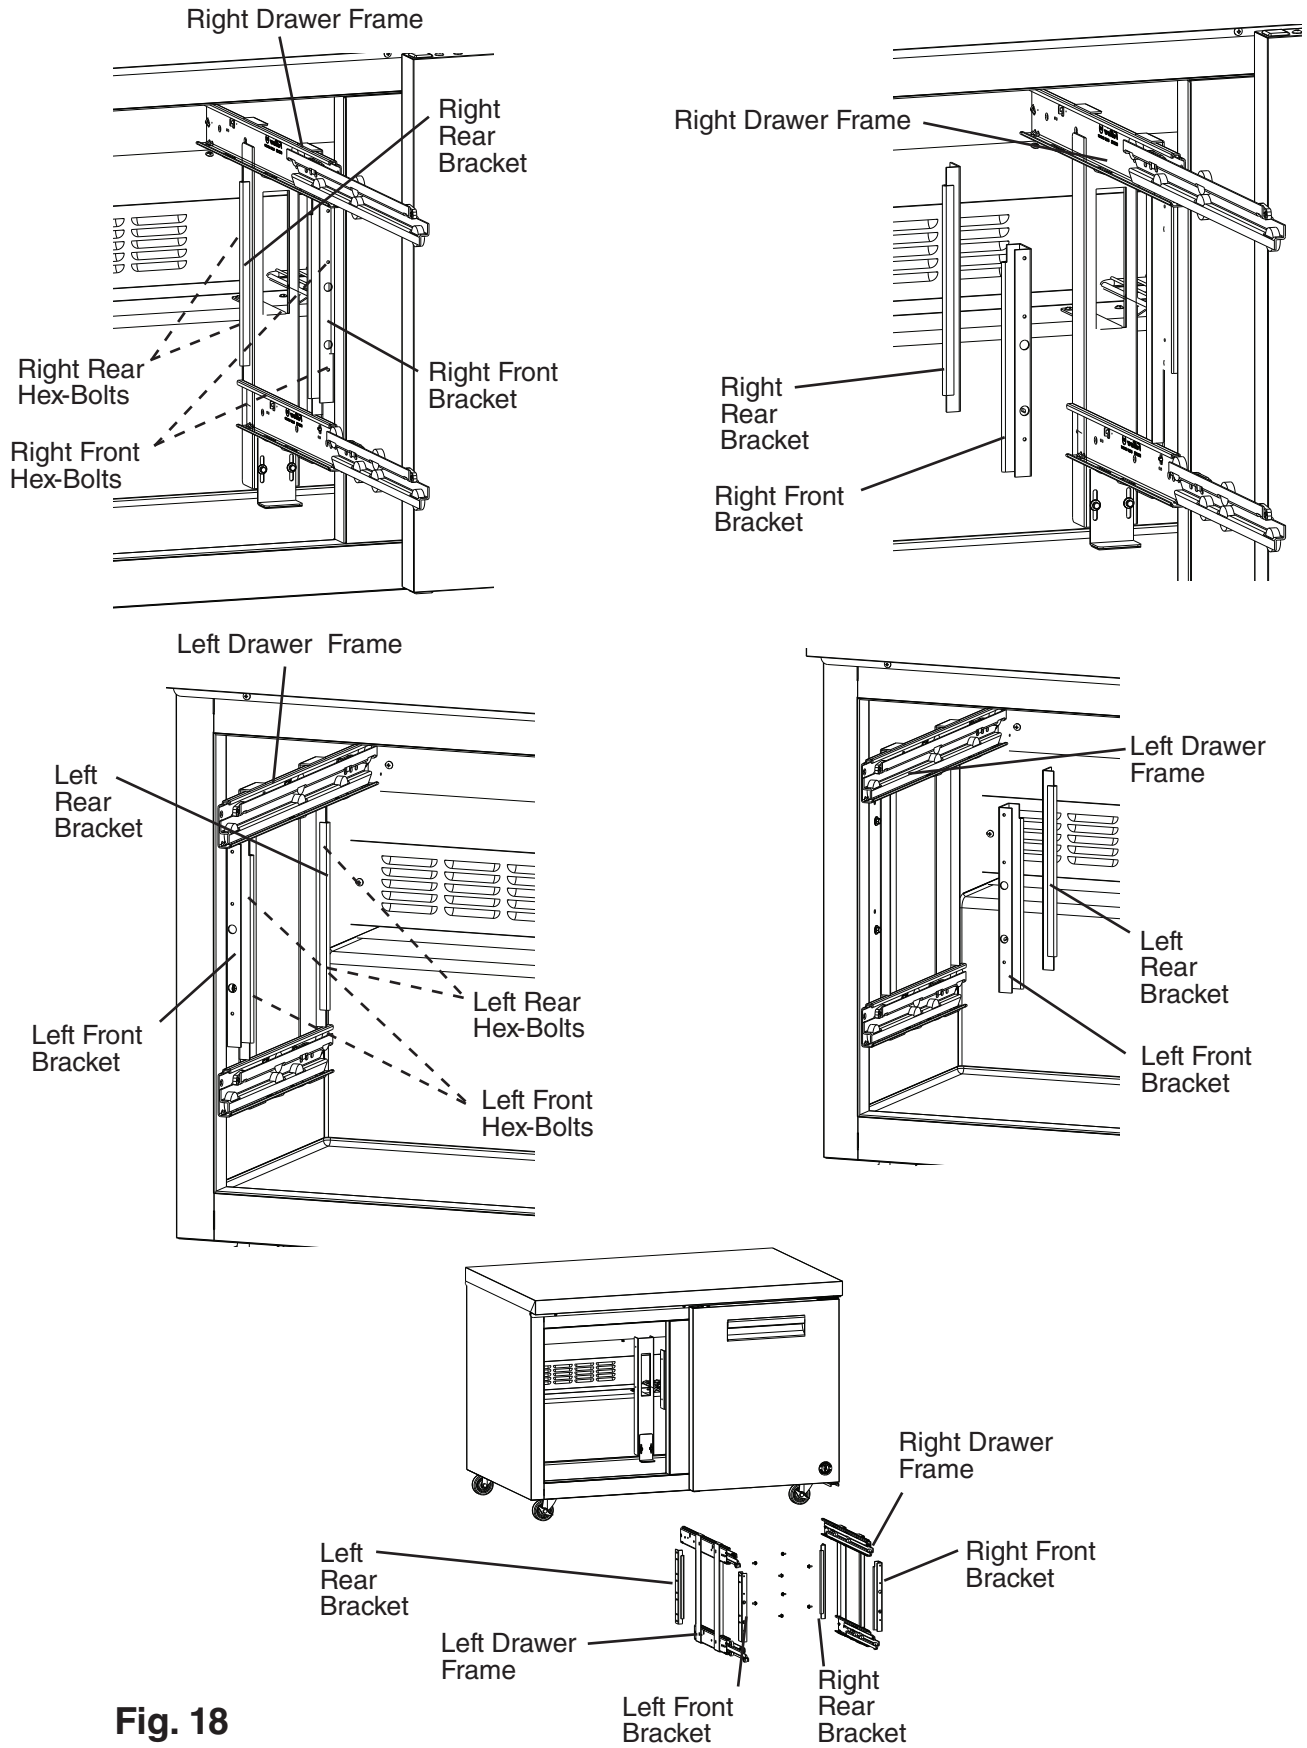

Fig. 18
4) Remove the hex-bolts from the 2 right (front and rear) and 2 left (front and rear) brackets (2 hex-bolts per bracket), then remove the right and left drawer frames. See Fig. 18.